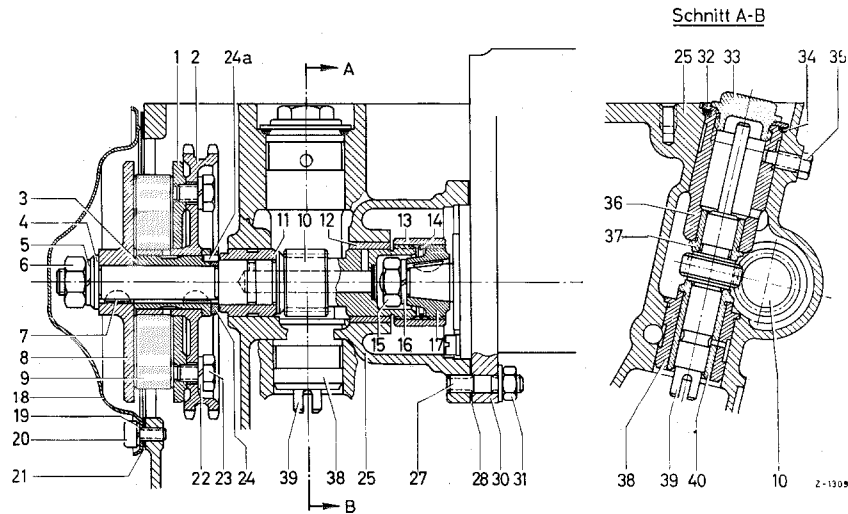

Figure 18-16/1
1. Loosen the screw plug (33) on oil pump drive by approx. 2 threads, unscrew the hex. hd. screw with pin (35) and press out the pressure piece (36) towards top with the help of a screw driver which should be inserted between the screw plug (33). (see Figure 18-16/1).
2. Pull the helical gear (39) (see Figure 18-16/1).
3. Completely unscrew the screw plug (33) from the pressure piece (36) and remove the washer (32) and the rubber ring (34) (see Figure 18-16/1).
4. Check the helical gear (39) and the bearing bushings (37) and (40) for wear and replace, if necessary (see Figure 18-16/1).